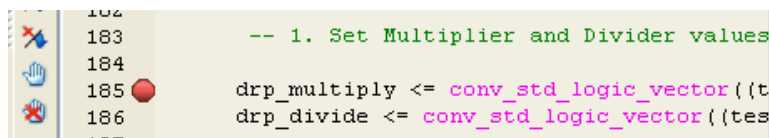

Figure 4-47: Setting a Breakpoint at Line 185 in `drp_demo_tb.vhd`
4. Use the instructions above to set a breakpoint at line 185 in `drp_demo_tb.vhd` (Refer to Figure 4-47). Doing so will cause the simulator to stop every time the signal `drp_multiply` is assigned a value.